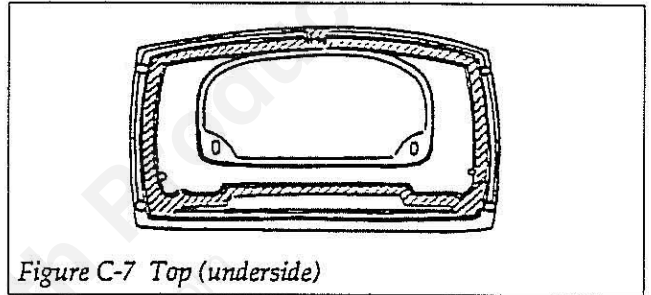

Figure C-7 Top (underside)
12. Put 1-1/2" threaded stems into the two holes at the rear corners of the underside of the stove top. Apply stove cement to the grooves around the underside of the stove top, and to the rear edges of the stove sides. See figure C-7.